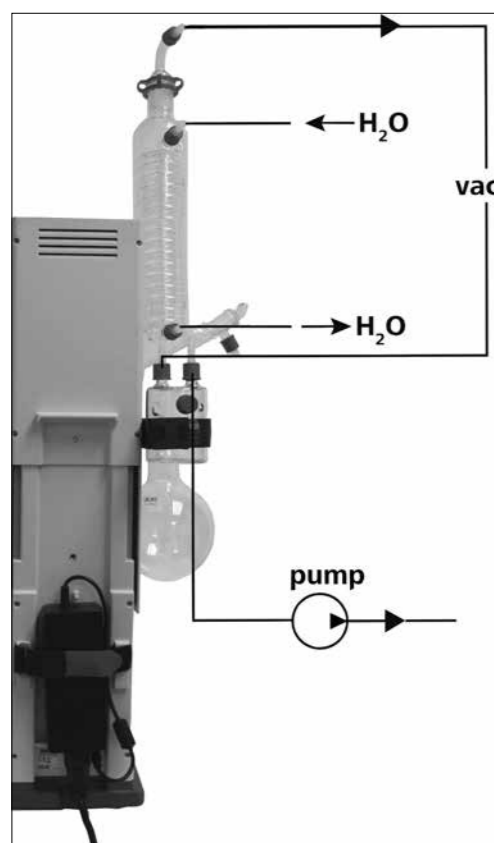

Fig. 20
- Connect the water hoses (**H₂O**) to the condenser according to the counter-flow principle. (Fig. 20)